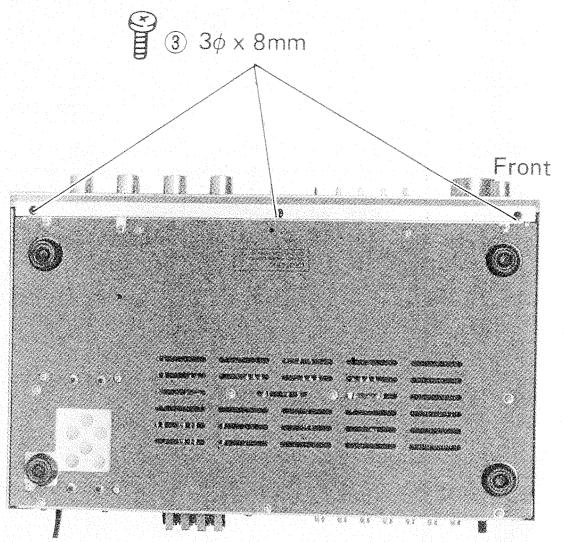

Figure 5
2. Remove three screws ③ ($3\phi \times 8mm$) holding front panel and back plate as shown in Figure 5.